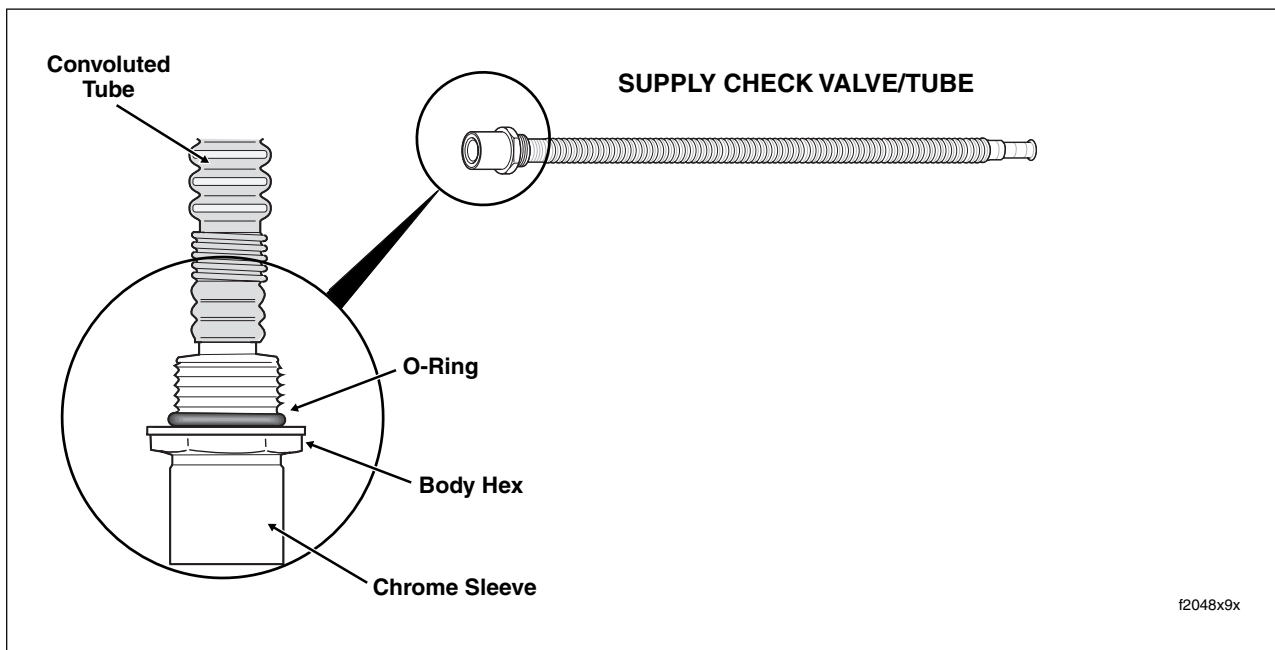

Figure 9-22. Supply Check Valve (Quick-Connect Fitting)
3. Slide a 7/8 inch deepwell socket over chrome sleeve engaging hex on quick-connect fitting. See Figure 9-22. Looking down at top of fuel tank, rotate fitting in a clockwise direction until it turns easily. Remove the fitting by hand drawing convoluted tube out through hole at bottom of fuel tank.
1. Apply a very thin film of clean H-D 20W50 engine oil to new O-ring. Slide O-ring down convoluted tube and into groove of new quick-connect fitting. See Figure 9-22.